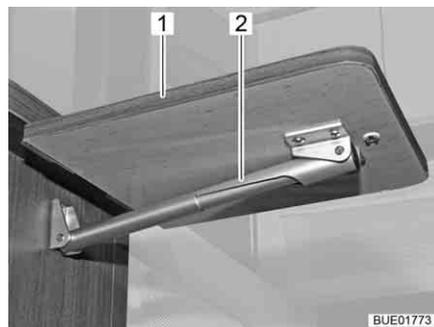

Fig. 137 Folding worktop, unfolded
- Gently pull the folding worktop (Fig. 137,1) to release it from the magnetic holder.
- Swing up the worktop until the fixture of the telescopic holder (Fig. 137,2) engages.